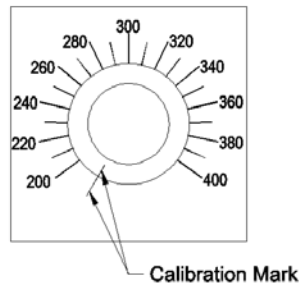

Fig. 1
1. Calibrate by aligning the line on the control knob with with the calibration line on the scale plate (See Fig. 1).